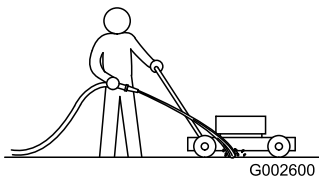

Figure 34
1. With the engine running on a flat paved surface, spray a stream of water in front of the **right** rear wheel (Figure 34).